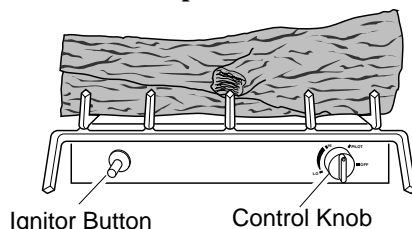

Figure 21 - Control Knob and Ignitor Button Location
4. Wait five (5) minutes to clear out any gas. Then smell for gas, including near the floor. If you smell gas, **STOP!** Follow "B" in the safety information, column 1. If you don't smell gas, go to the next step.
5. Turn control knob counterclockwise to the PILOT position. Press in control knob for five (5) seconds (see Figure 21).
**Note:** If pilot goes out, repeat steps 3 through 7. This heater has a safety interlock system. Wait one (1) minute for system to reset before lighting pilot again.